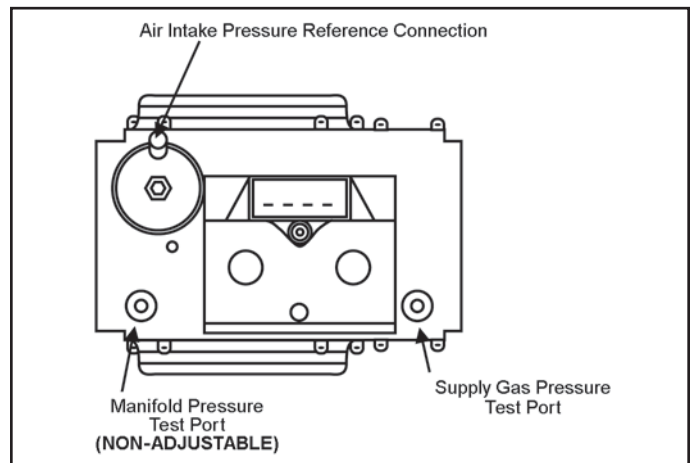

Figure 56. Gas Valve View
4. Wait five (5) minutes for any residual gas to clear.
5. Connect manometer to the supply gas pressure port on the gas valve see Figure 56.
On the water heaters covered by this manual there are test ports for supply and manifold gas pressure readings on the gas valve. Using a small flat tip pocket screw driver - open the needle valve inside the supply gas pressure test port one full turn only; turn the needle valve screw counter-clockwise to open the valve. Slide the manometer sensing tube over the top of the test port, see Figure 56.